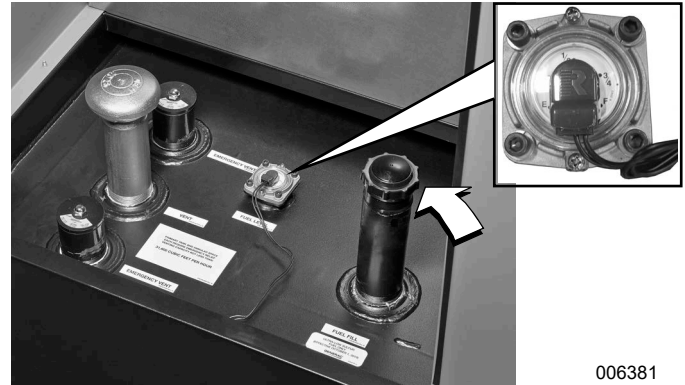

Figure 5-13. Check Fuel Level Gauge and Fill
1. See Figure 5-13. Inspect fuel gauge to note level of fuel in tank.